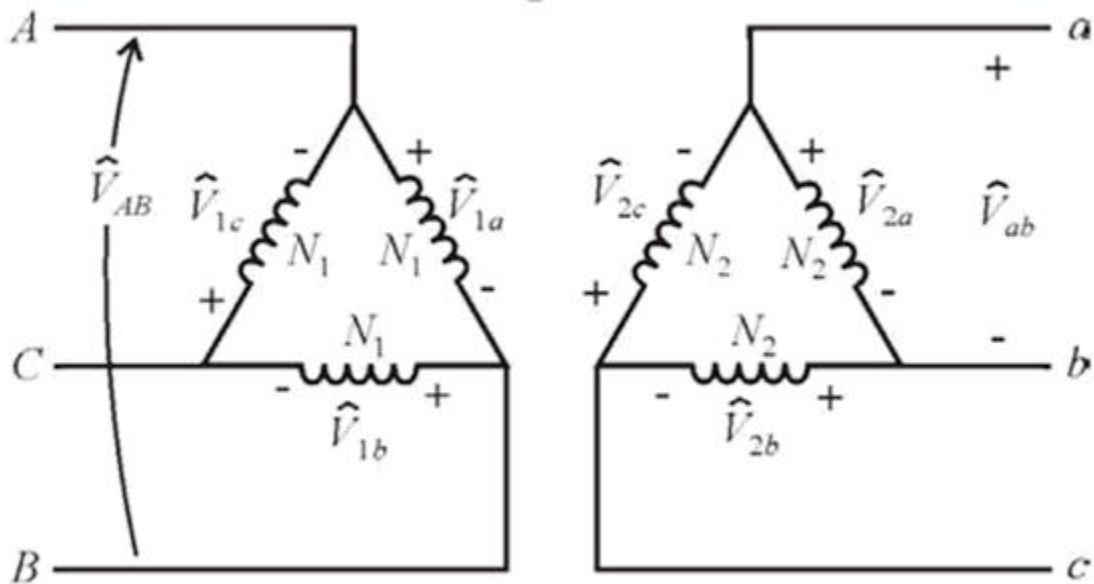

Fig 2.20(B) Delta-Delta connections
The delta-to-wye connection is shown in Figure 2.20 (C). From the ideal transformer equations, it can be determined that